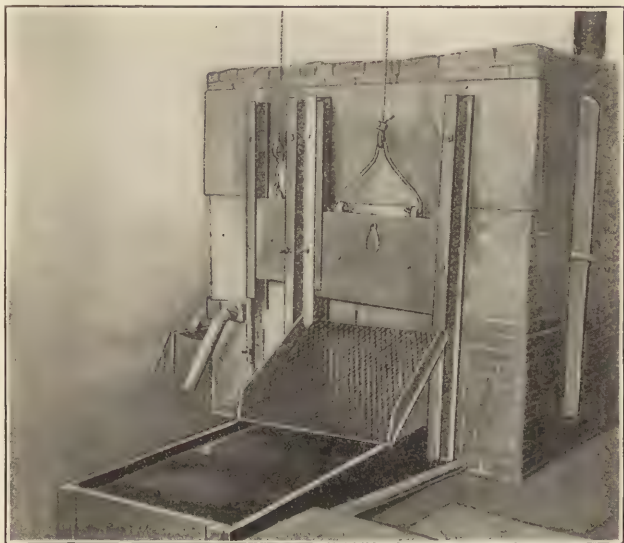

Fig. 1. Furnace for Casehardening, Pack Hardening, etc.
**The Furnace.**--In Fig. 1 is a view of such a furnace, designed to burn hard coal, which is economical to build and operate and gives very satisfactory results. In the appendix are sheets containing complete working drawings of the furnace. Many small concerns could build a furnace like this and harden all the machine steel parts necessary in the construction of their machinery and tools. The furnace can be built from common brick and firebrick, without the use of any large tile, and is adapted for mottling and coloring, as well as casehardening and pack hardening. In the front view of the furnace in the appendix, the left-hand door is for firing and the right-hand door for placing and removing work. Below are the ashpit and flue openings, covered with sheet iron caps, for cleaning out. The blast pipe (No. 5) is at the left.